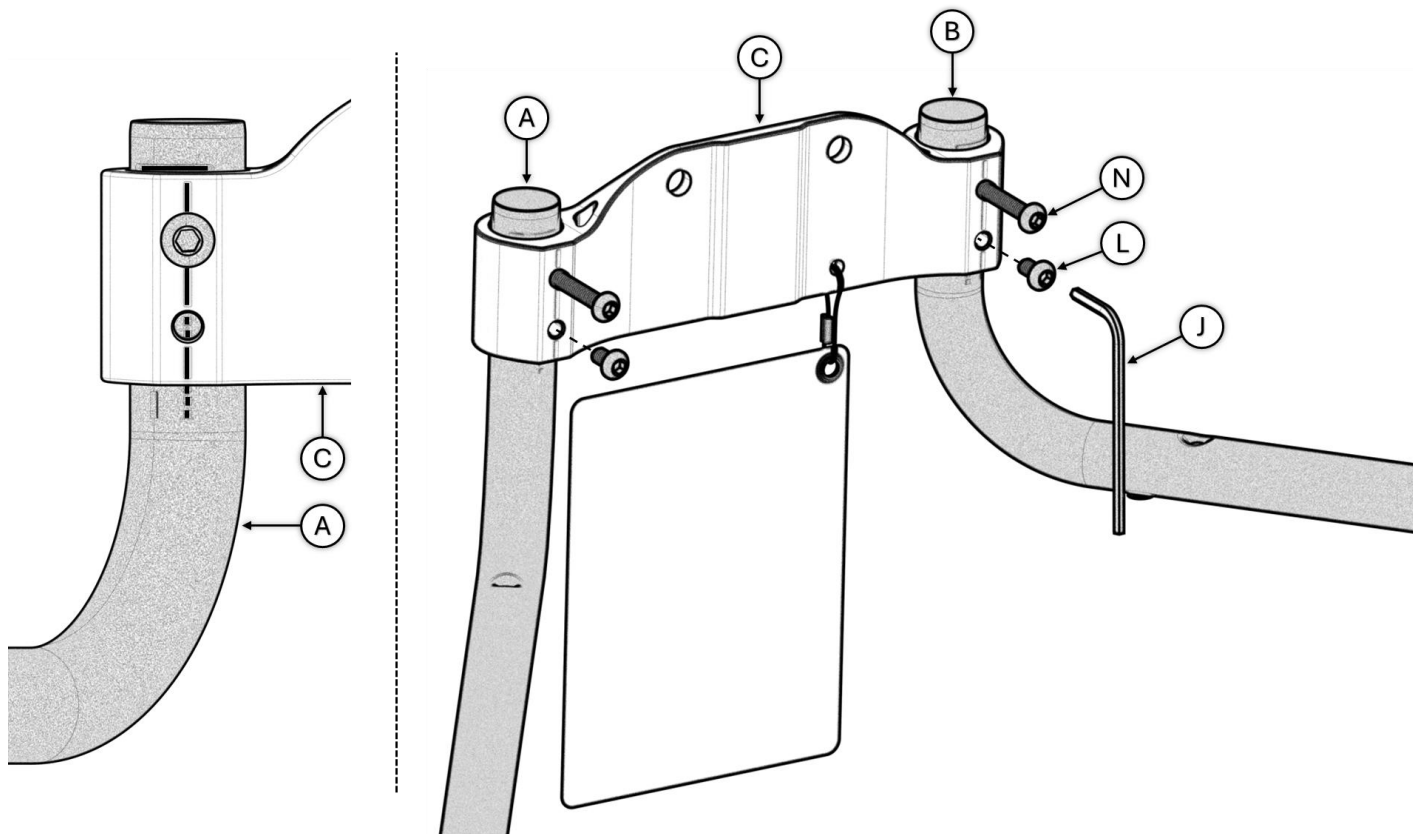

FIGURE 9
9. Insert Leg **A** into Bracket **C**. Align the top edge of **C** with horizontal line on Leg **A**. Align holes on Bracket **C** with the dashed vertical line on Leg **A**, as shown in *FIGURE 9*. Screw Bolt **N** through hole and tighten firmly with Tool **J**. Insert Bolt **L** into the **Lower** hole and tighten firmly. Repeat for Leg **B**. Legs should be at an angle to one another when assembled.